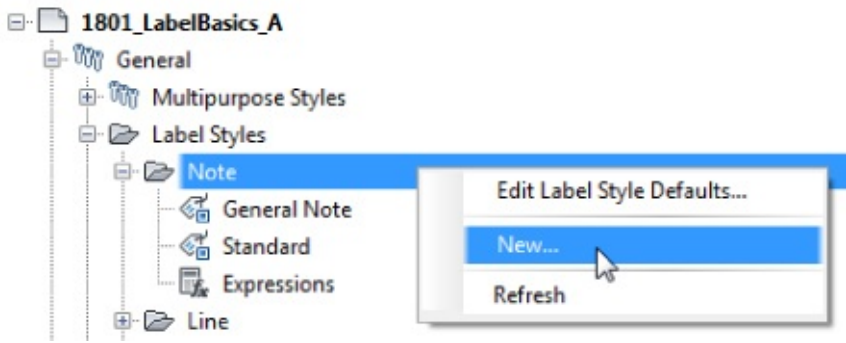

Figure 18.18 Creating your first new label style from the Settings tab
- 3. Right-click Note and select New (as shown in Figure 18.18).